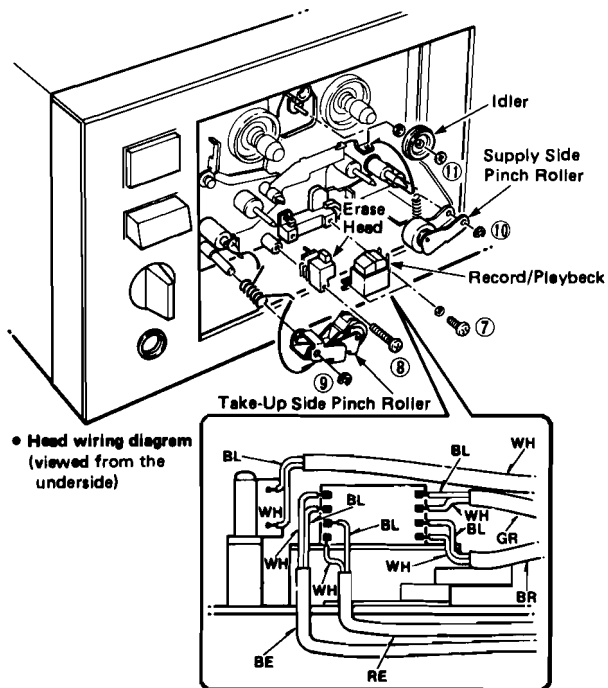

Fig. 6
- c. Remove 2 screws ( ⑦ ) in fig. 6, then replace the REC/PB head.
- d. Remove the screw ( ⑧ ) in fig. 6, then replace the ERASE head.
- e. Remove the E ring ( ⑨ ) in fig. 6, then replace the supply side pinch roller.
- f. Remove the E ring ( ⑩ ) in fig. 6, then replace the take-up side pinch roller.
- g. Remove the washer ( ⑪ ) in fig. 6, then replace the idler.
- b. Remove the back plate (Refer to Fig. 6.)